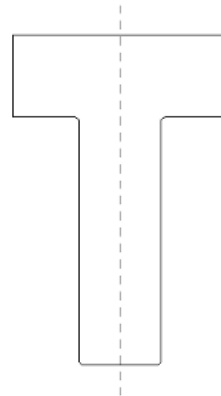

Figure 16-66 Block after converting the vertical line to a construction line
6. Enter **C** and press ENTER; the vertical line is converted to a construction line, as shown in Figure 16-66. Note that you can also create a centerline in the drawing mode but for the purpose of example, this method is given.